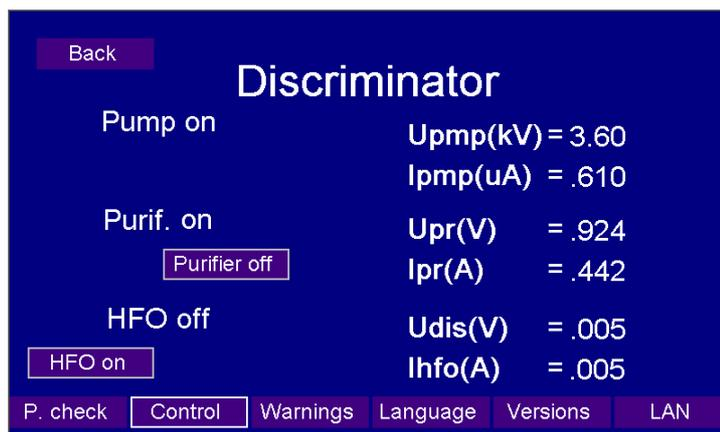

Figure 18. Submenu “Discriminator”, variant 3
3. Pump and purifier are switched ON, HFO is switched OFF. One can either switch OFF the purifier or switch ON the HFO, (Fig. 18).